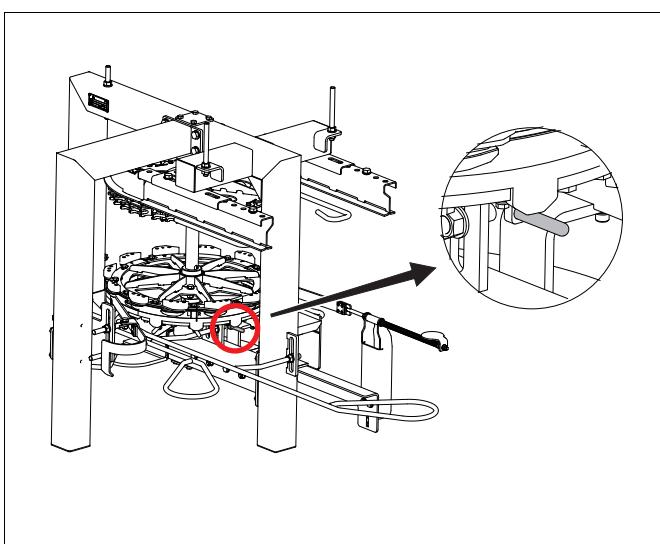
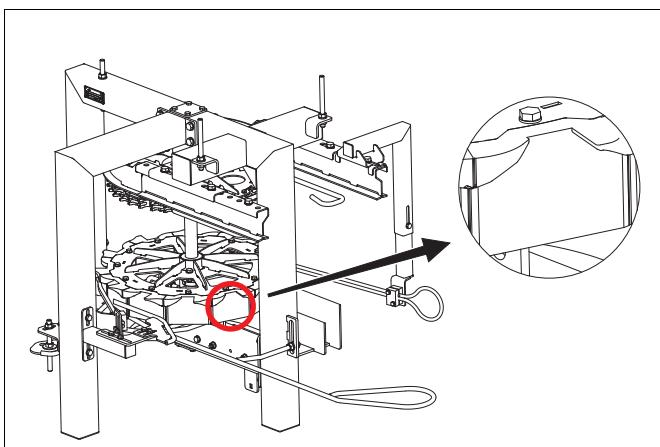

fig. 2 Unloading Station with pins
fig. 3 Unloading Station without pins
- BR-III HS with pins (see fig. 2)
- BR-III HS without pins (see fig. 3)
See fig. 2 and fig. 3.